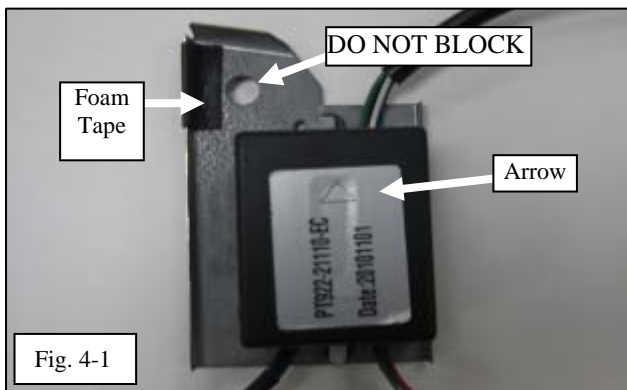

Fig. 4-1
(1) Orient the ECU so that the arrow on the label is pointing up. (Fig. 4-1)
(2) Wrap the top left bracket edge with a small piece of foam tape. (Fig. 4-1)